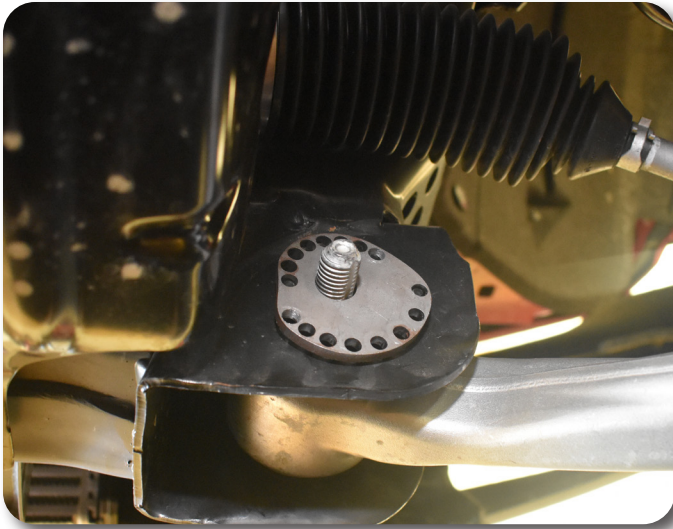

Figure 6
10. Install the cam plate on the back side of the control arm pocket with the cam position the same as the front cam plate so that the bolt goes straight through the control arm Figure 6.